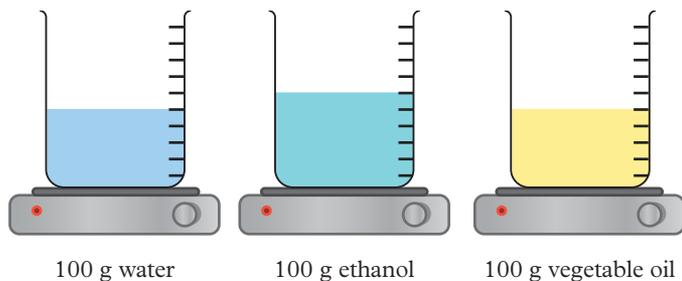

FIGURE 2 An experimental set-up
- 20 Three substances, all initially at 20.0°C, are being heated at a constant rate in the experimental set-up shown in Figure 2. The specific heat capacities for the substances, from left to right, are 4.18 J g⁻¹ mol⁻¹, 2.46 J g⁻¹ mol⁻¹ and 1.67 J g⁻¹ mol⁻¹.
- Use Figure 2 to determine which of the three liquids in the experiment has the lowest density.